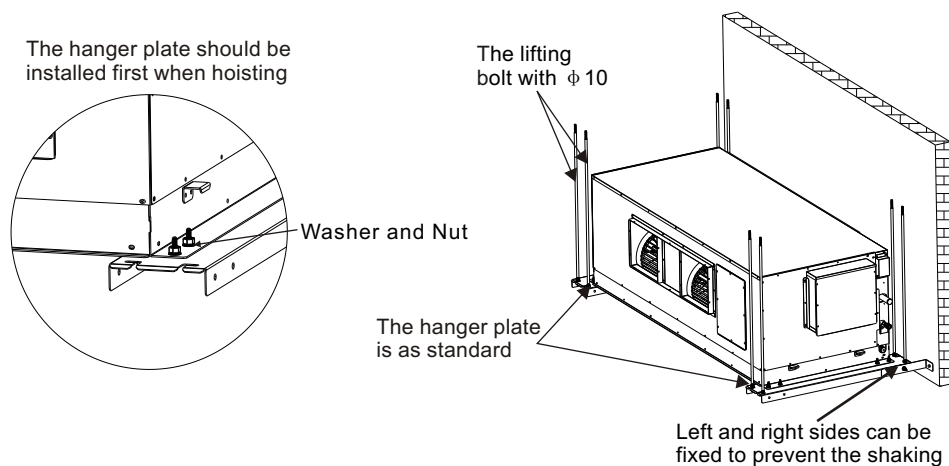

Figure 3.10
4) The high static pressure ducted unit 45.0kW~56.0kW and the fresh air 45.0kW~56.0kW need use hanger plate to install. The hanger plate is as standard. (The hanger plate should be installed when hoisting, and use the eight lifting bolt with $\phi 10$). Refer to Figure 3.10.